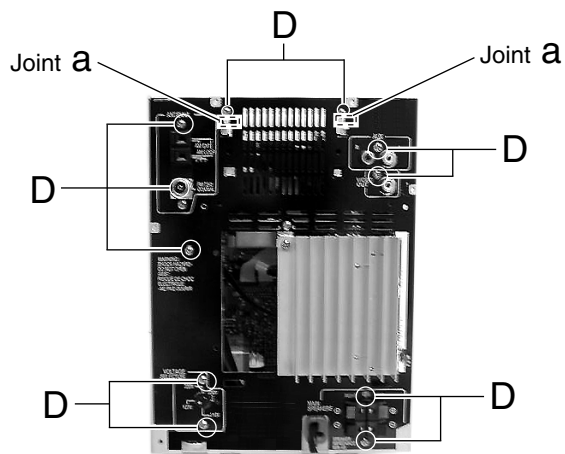

Fig. 6
■ Removing the rear panel (See Fig. 6~8)